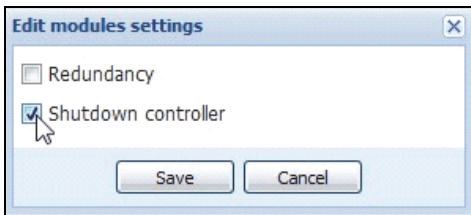

Figure 43. Enable Shutdown Controller
- 4 Check the **Shutdown Controller** check box (see Figure 43).